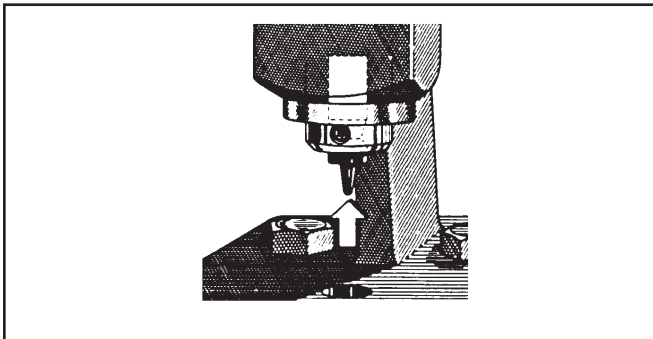

Figure 17. Replacing the Punch
2. Insert a new punch into the holder and push it up until it is fully seated (Figure 17). Secure the punch to the chain breaker holder by fully tightening the set screw.